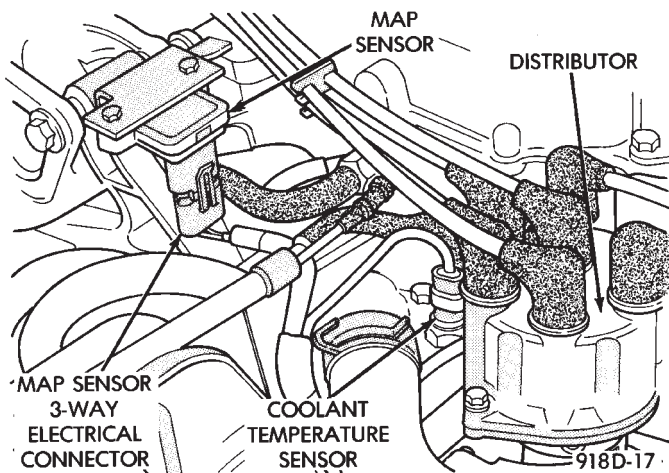

Fig. 4 Map Sensor Electrical and Vacuum Connections
(5) Verify the electrical connector is attached to the MAP sensor (Fig. 4).
(6) Check MAP sensor hose at MAP Sensor Assembly (Fig. 4), and at Vacuum Connection at Intake Plenum Fitting.
(7) Check alternator wiring connections. Ensure the accessory drive belt has proper tension.